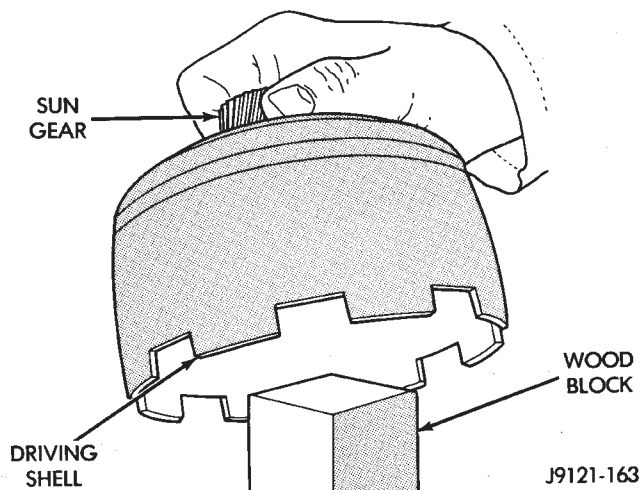

Fig. 86 Supporting Sun Gear On Wood Block
(10) Position wood block on bench and support sun gear on block (Fig. 86). This makes it easier to align